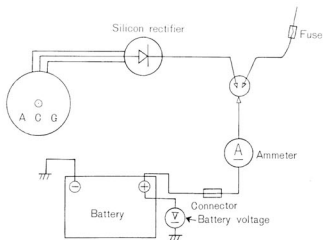

Fig. 6-2-4 Measuring the charging current
- Connect the tester lead wires (D.C. ammeter, 5 A) to the connector as shown in Fig. 6-2-4.